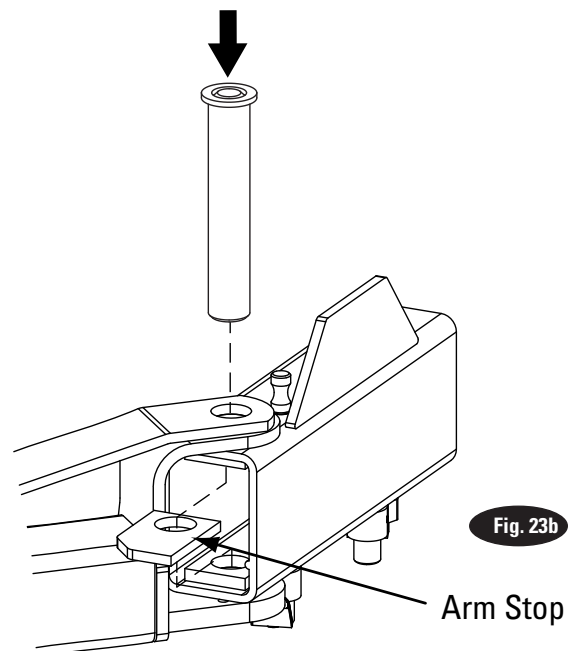
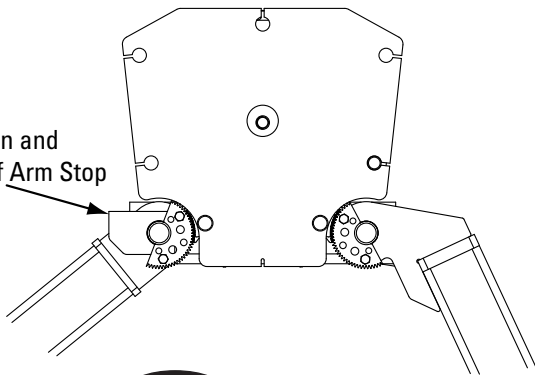

Fig. 23b
Fig. 23c
**Note:** Arm stop will be required on the drive in side of the power unit side. Install at same time as arm pin, Fig. 23b. Notice the orientation of arm stop in Fig. 23c.